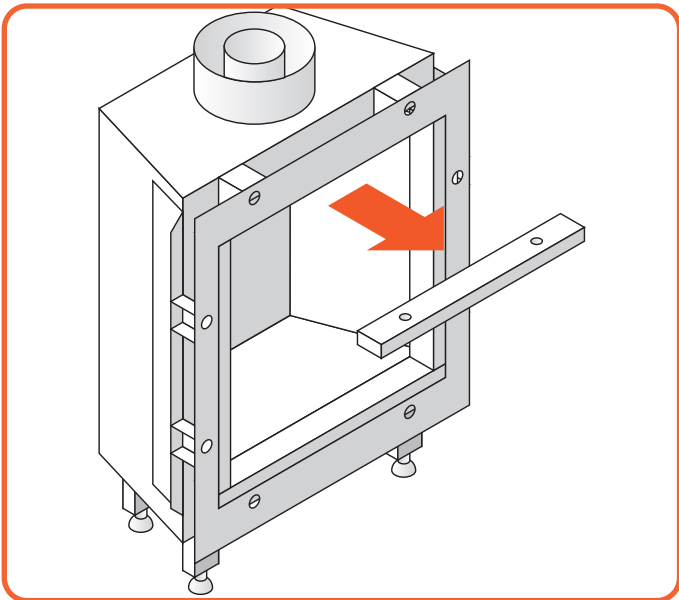

Figure 9.2 | Remove upper trim
- Remove the screws from the upper trim, see Figure 9.2